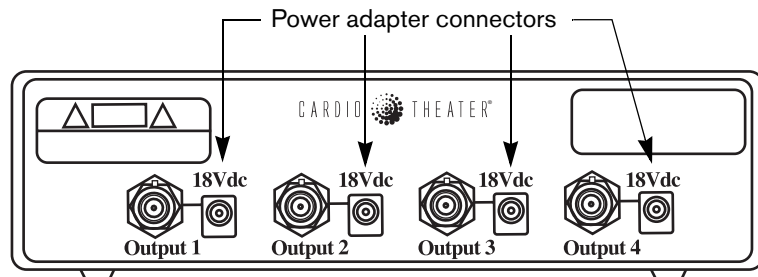

Figure 14: Plug AC power adapter(s) into QuadPac Wired Amplifier
3. Plug each supplied AC power adapter into the power adapter connectors on the back of the wired amplifier(s). You need an AC power adapter for each outlet that will be used. See Figure 14. (You will plug the other end of the power adapter into a power outlet later in the process, after attaching the cables.)